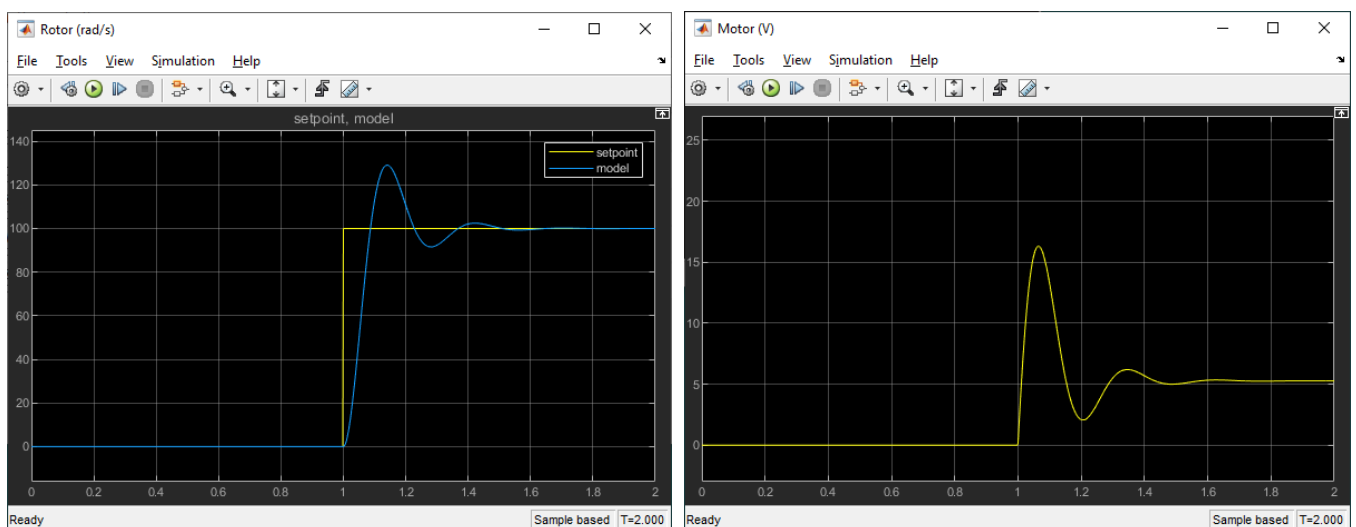

Figure 2 – Sample simulated rotor speed control response using  $k_p=0.1$  and  $k_i=5$ .
5. Run the *s\_aero2\_rotor\_pi* Simulink model to simulate the closed-loop response of the PI control. The response using the default PI gains  $k_p = 0.1$  V/(rad/s) and  $k_i = 5$  V/rad is shown in Figure 2. Note that the response with the designed PI gains will be different.